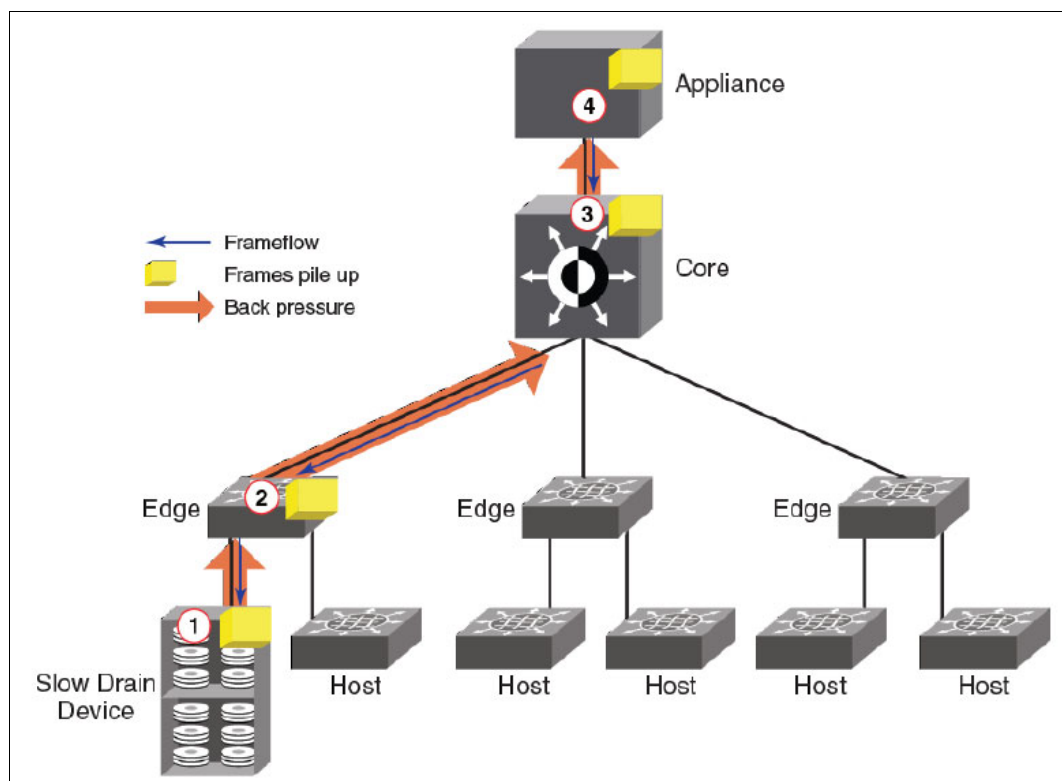

Figure 7-12 Slow drain device
Figure 7-12 illustrates how this process works. In the figure, the inability of the slow-draining device (1) to clear frames quickly enough is causing backpressure not just to the edge device (2), but also to the core (3) and the appliance (4) that is trying to reach the slow-draining device.